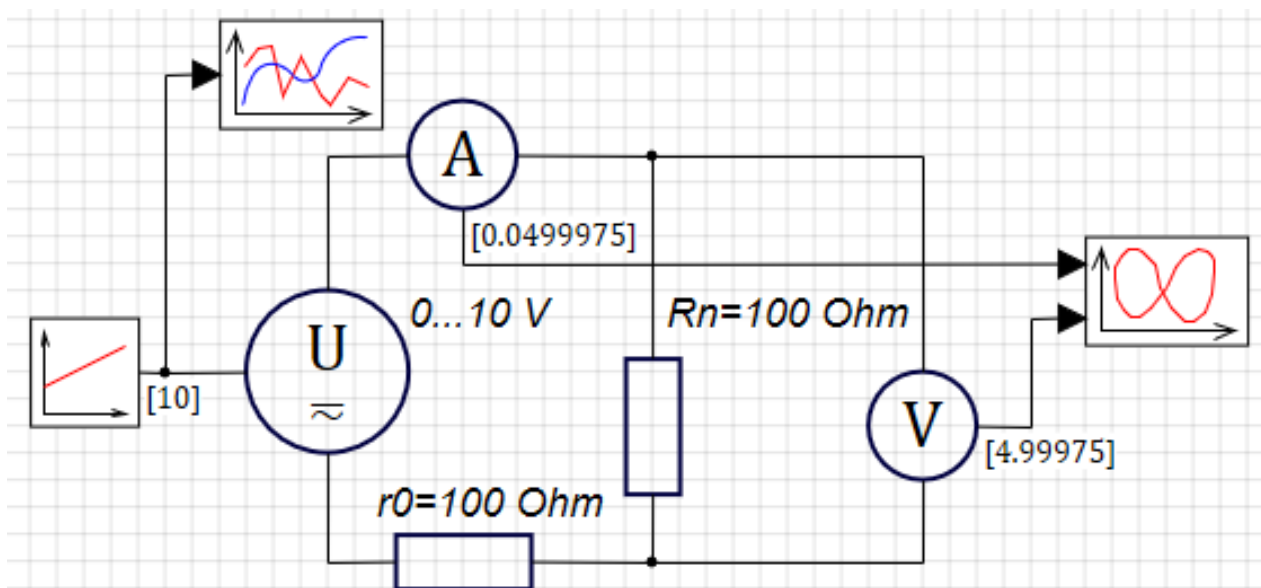

Figure 2.8
Run the resulting model for simulation, press the **Show values on wires** button . As a result, the mathematical communication ports of the ammeter and voltmeter will display the values of current and voltage at the load resistance R_h (Figure 2.8).
9. Conduct a simulation for the circuit Figure 2.8, setting the resistance values r_0 and R_n in ohms equal to the option number plus 50.